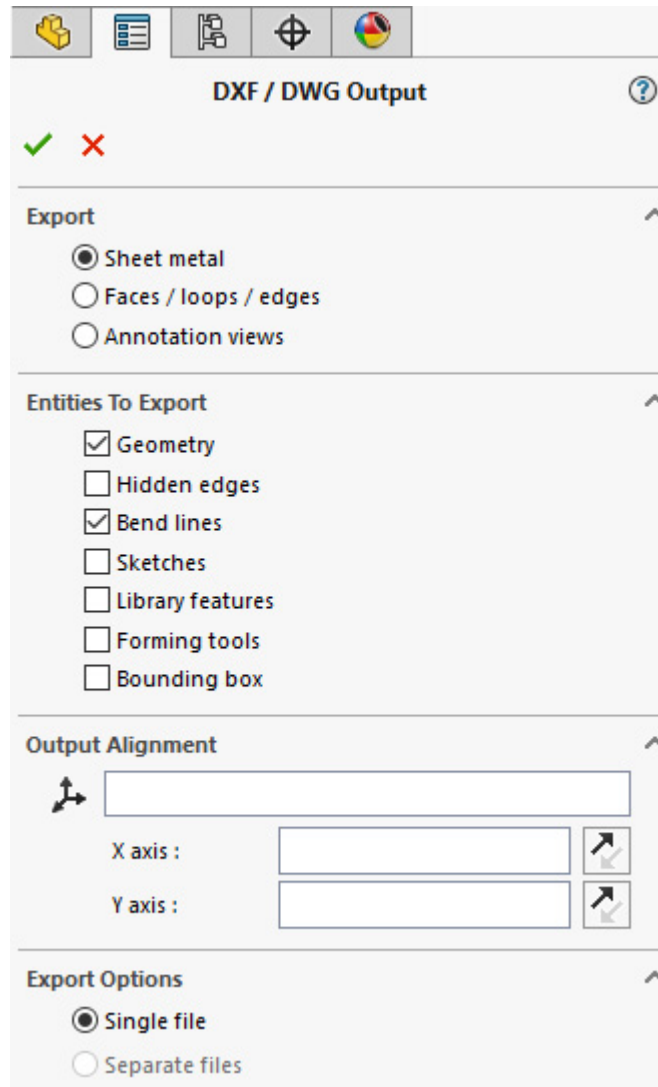

Figure 4.6: DXF / DWG Output options
7. Further **DXF / DWG Output** options will now appear (see *Figure 4.6*). For sheet metal parts, the **Sheet metal** option is usually the best choice for the **Export** setting.